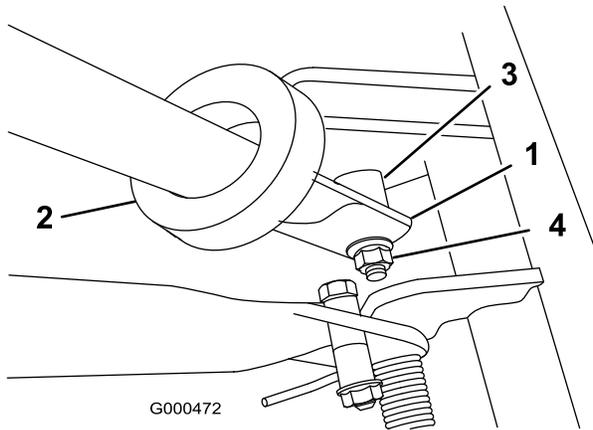

Figure 9
2. Insert the handle ends through the slots in the handle support arms (Figure 9).
3. Squeeze the handle ends inward and install them on the step of the pivot pin (Figure 9).
4. Secure the handle to the bolt and pivot pin with the flange lock nut (Figure 9).